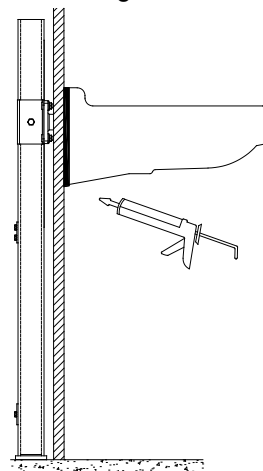

Fig. 13
13. Caulk/Silicone lavatory to the finished wall for a watertight seal. See Fig. 13